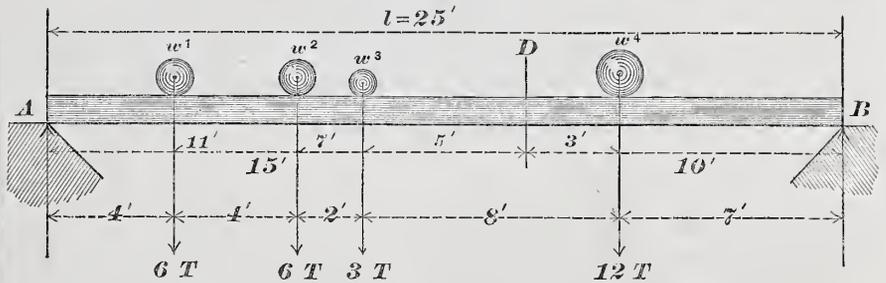

Fig. 7.—Beam under Partial Loads at Different Points.
tons. Any number of weights acting upon a beam would have to be treated in the same manner, the sums of their separate reactions being the total reaction or weight supported at the abutments. For example, suppose a beam, A B, Fig. 7, 25 feet long, loaded with the weights $w_1 = 6$ tons, $w_2 = 6$ tons, $w_3 = 3$ tons, $w_4 = 12$ tons, at the distances marked on the diagram, what will be the abutment reaction at A and B respectively?
the same as before in equation (3). If we desire to find the abutment reaction at B, Fig. 7, by the equality of moments, we shall have